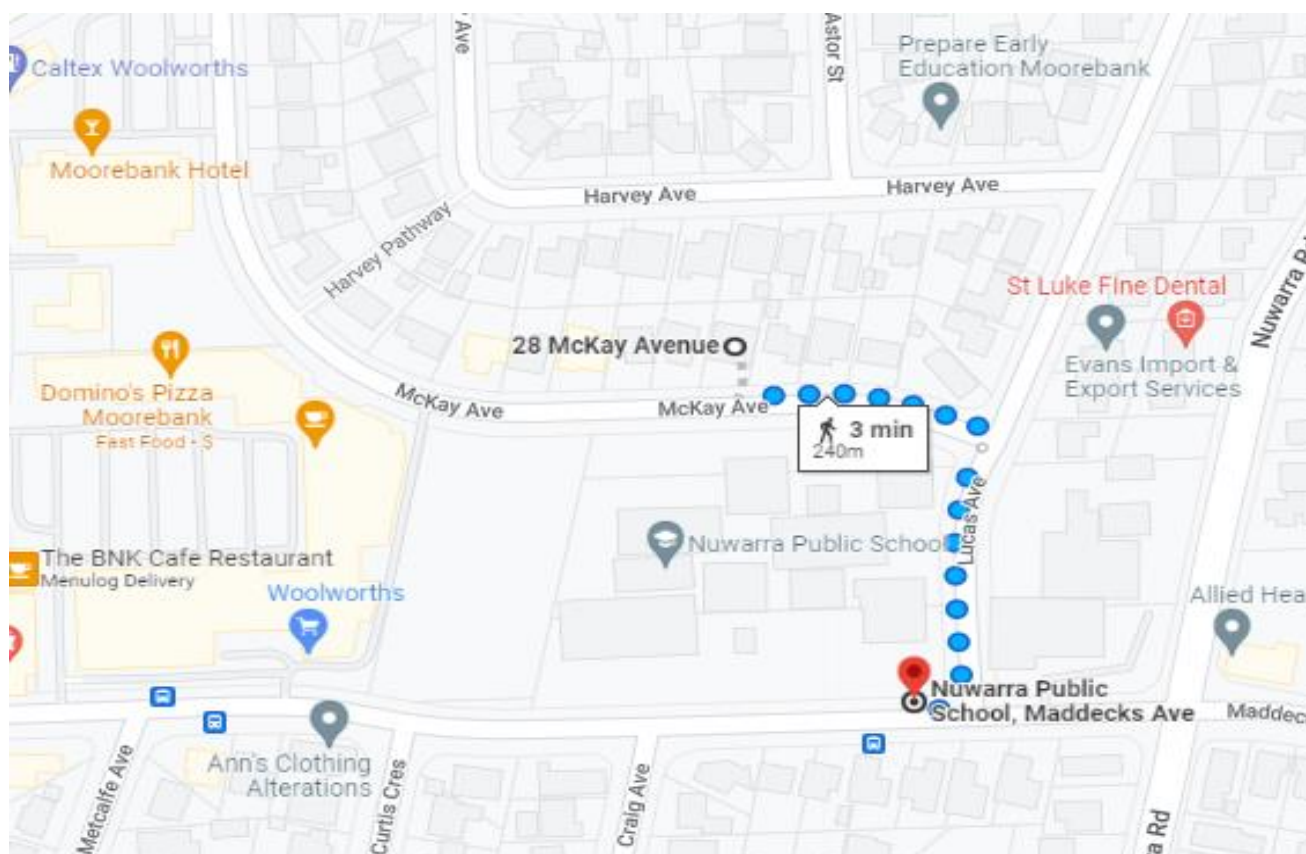

Figure 2-1 Subject Site to Nuwarra Public School, Maddecks Ave bus stop (from Google maps)
1. It takes 3 minutes walking (240m) from the site to Nuwarra Public School, Maddecks Ave bus stop (refer to Figure 2-1).